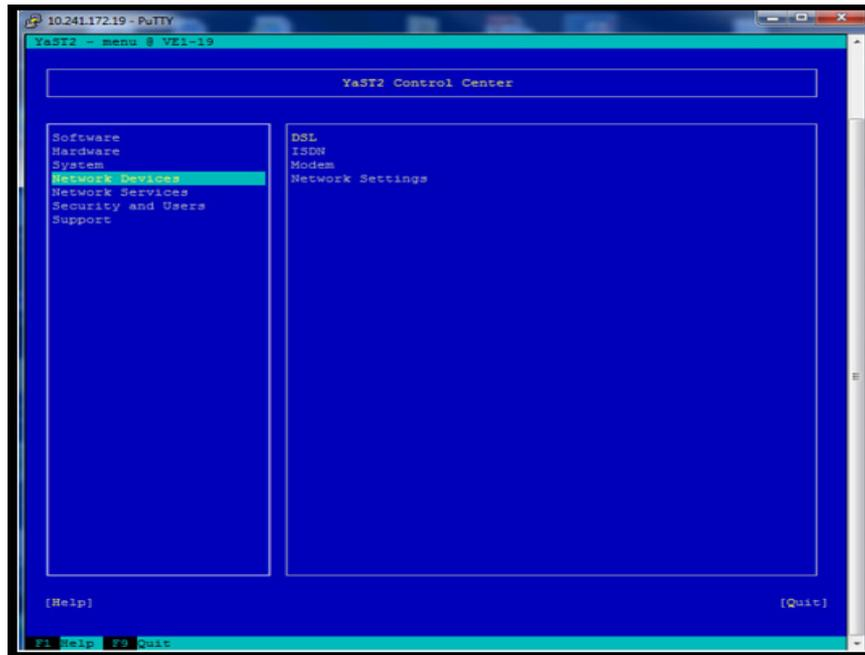

Figure 149 Selecting Network Devices
3. Select **Network Devices**, as shown in Figure 149 on page 123.